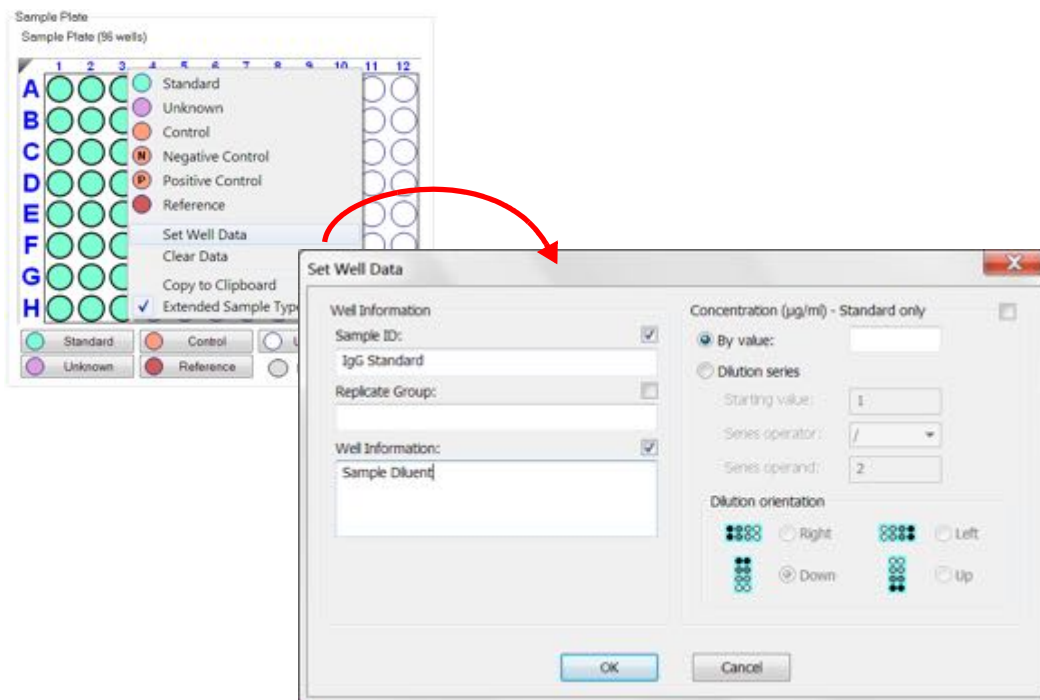

Figure 5-14: Adding Sample Annotations from the Sample Plate Map
2. In the **Set Well Data** dialog box (see Figure 5-14), enter the **Sample ID** and/or **Well Information** and click **OK**.